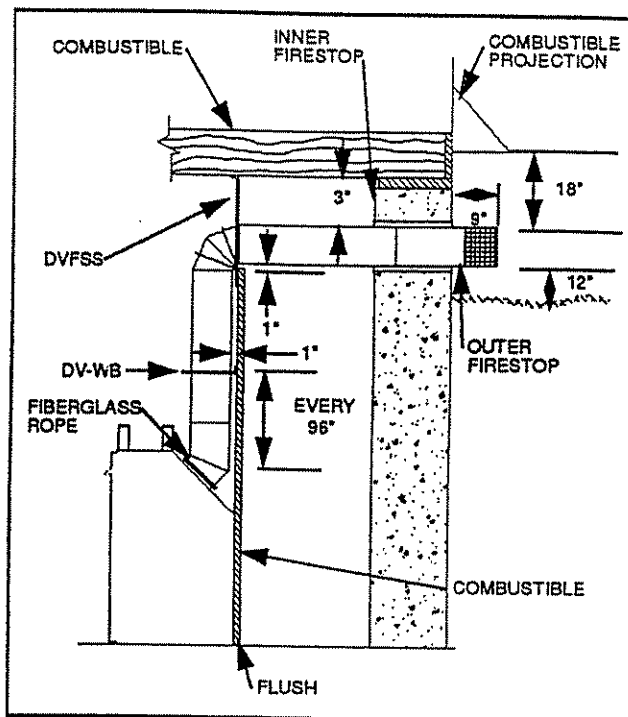

Fig. 10. Typical installation.
A horizontal pipe support (DV-HPSD) **MUST BE** used for each 5 feet of horizontal run. The pipe supports should be placed around 8-5/8 inch diameter pipe and nailed in place to framing members. There **MUST** be a 3-inch clearance to combustibles above 8-5/8 inch diameter pipe and elbows and 1 inch clearance on both sides and bottom of 8-5/8 inch to combustibles on all horizontal pipe sections and elbows. (See Fig. 10.)
**WARNING:** The bottom of the vent termination cap **MUST** be a **MINIMUM** of 12 inches above ground level (grade). Additional minimum clearances to the vent cap may vary per gas appliance and are shown in the appliance instruction manual. These clearances **MUST** be followed. (See Figs. 10 and 22.)